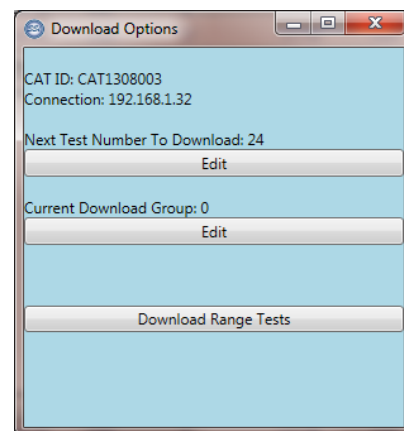

Figure 65 - Download Options
**Download Options.** This option (Figure 65) provides several parameters for downloading test results from the CAT-100 unit.